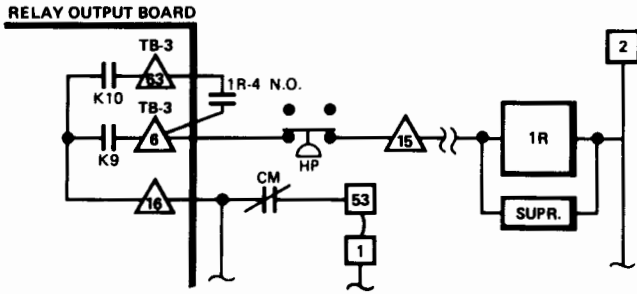

FIG. 18 — RELAY OUTPUT BOARD
- TB3-6 - Motor starter contacts (Ref. Fig. 18). Part of 1R (start relay) anti-chatter circuit. After the 30 second pre-lube ( **START SEQUENCE INITIATED** ) the Micro Board energizes K9 and K10 coincident with the Micro Board going into "RUN" mode ( **SYSTEM RUN-LEAVING TEMP CONTROL** ). 1R is energized thru K9 contacts causing 1R-4 contacts to close creating a holding circuit thru 1R-4 and K10 contacts. After 200 milliseconds, the Micro Board de-energizes K9. 1R remains energized thru 1R-4 and K10 contacts. If 1R fails to energize or if it de-energizes at any time while the Micro Board is in **SYSTEM RUN-LEAVING TEMP CONTROL**, 1R cannot again energize until K9 is again energized at completion of **START SEQUENCE INITIATED** (the next chiller start). When 1R de-energizes while **SYSTEM RUN-LEAVING TEMP CONTROL** is displayed the Micro Board senses a loss of motor current (for 25 continuous seconds) and shuts down the chiller and displays **AC UNDER-VOLTAGE-AUTOSTART**. Refer to explanation of this message in MicroComputer Control Center operating manual Form 160.46-O1.1
- TB3-63 - Motor starter stop contacts (Ref. Fig. 18). Part of 1R (start relay) anti-chatter circuit. 115VAC when Micro Board is commanding the compressor motor to run and the motor controller contacts (CM) are closed. Refer to explanation of TB3-6.